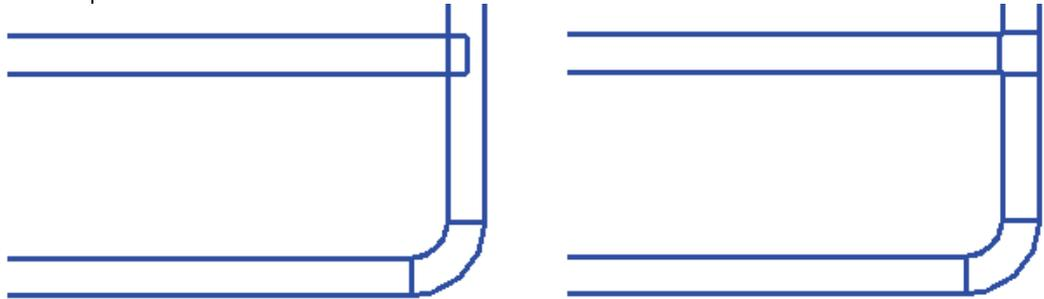

Figure 2–49
- When working with MEP elements (such as ducts) the offset element might not automatically connect to other nearby elements, as shown on the left in Figure 2–49. Drag the end of the new element away from the other element and then back again. It should connect as shown on the right in Figure 2–49.